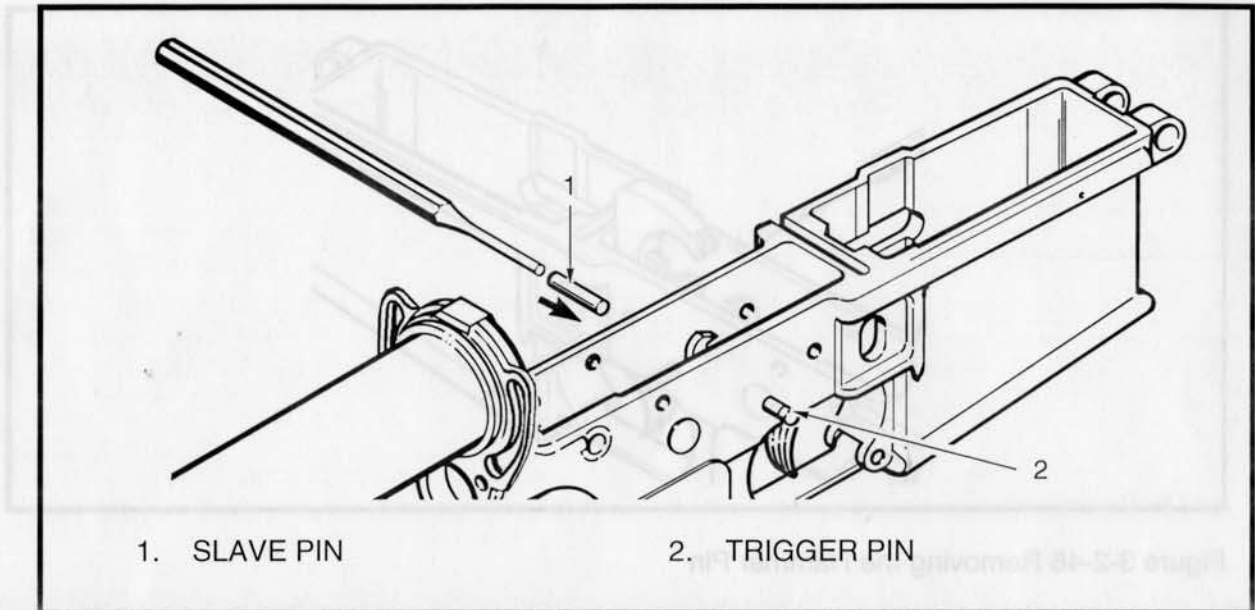

Figure 3-2-47 Removing the Trigger Assembly
(1) See Figure 3-2-47. Insert a slave pin (1), from the left, to displace the trigger pin (2);